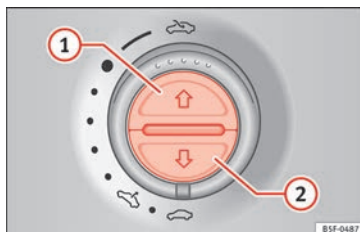

Fig. 98 On the interior roof lining: switches for the sun blind.
Opening completely (automatic function)	Press button » Fig. 98 (1) briefly.
- *Sun blind*: Within five seconds of triggering the anti-trap function, press button » **Fig. 98**  until the sun blind closes fully.